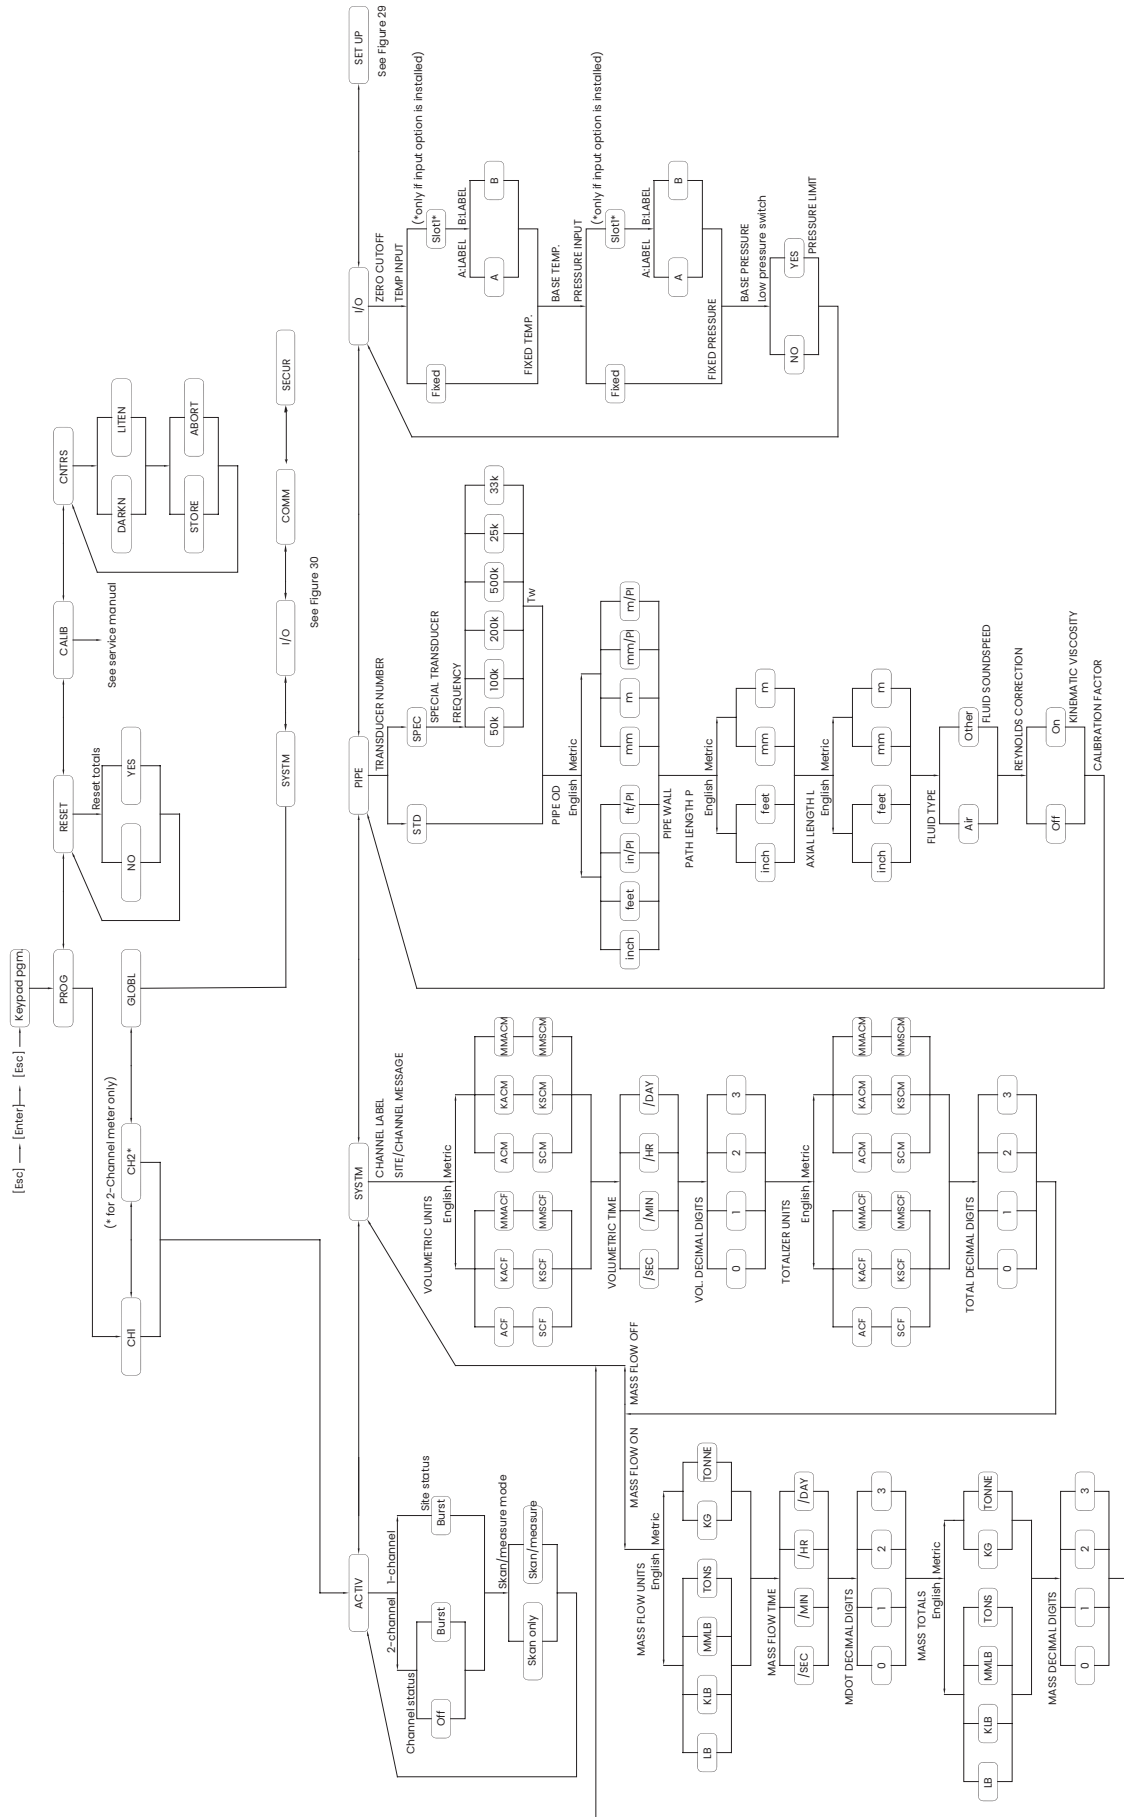

Figure 28: PROG > CHx > ACTIV, SYSTM, PIPE and I/O menus
- *Figure 28 on page 40, "PROG > CHx > ACTIV, SYSTM, PIPE & I/O Menus"*